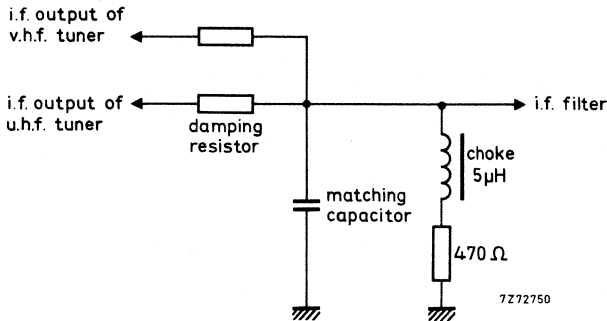

Fig. 8.
The tuner needs a d.c. path from the i.f. output terminal (10) to earth, preferably via a choke of approx. $5 \mu\text{H}$ outside the tuner (Fig. 8). Where the tuner is used in combination with a v.h.f. tuner, this choke can be common for both tuners; a resistor in series with the choke can make ineffective the i.f. output circuit of the switched-off tuner. For damping the i.f. output circuit and matching the i.f. output impedance of the tuner to the i.f. amplifier, a series resistor and a parallel capacitor as shown in Fig. 8 should be used.